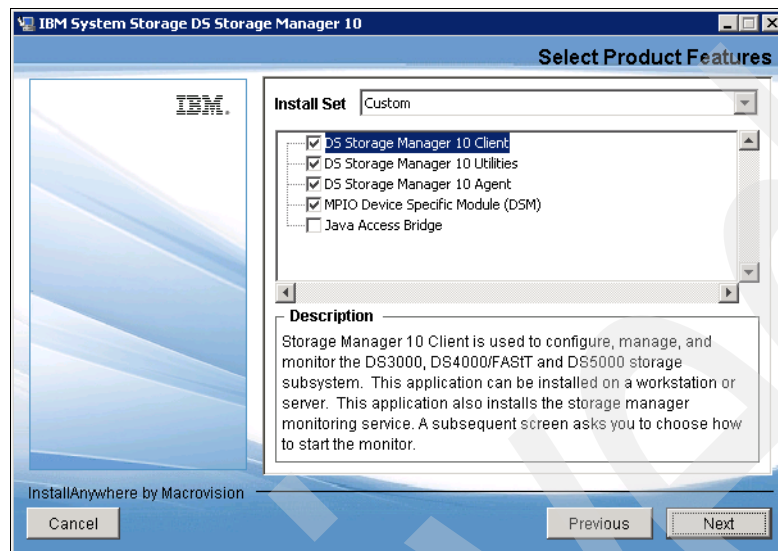

Figure 4-2 InstallAnywhere: Select Storage Manager components
- b. Decide what type of installation you want. Two additional choices are offered: Typical (Full Installation) and Custom. As the name indicates, Typical (Full Installation) installs all components and Custom installation lets you choose the components, as you can see in Figure 4-2.